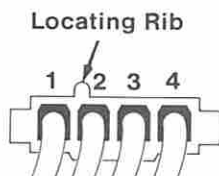

Figure 11. Diskette Drive Power Connectors
- Check the power connector at each installed diskette drive for the voltages listed in Figure 11.